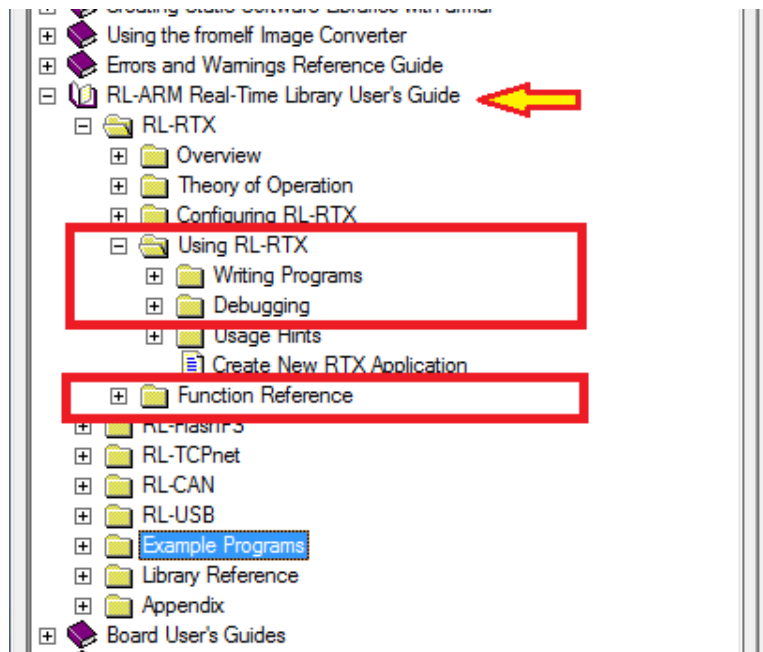

Figure 2.12: Keil IDE: RL-RTX Manual
5. Start a PuTTY terminal and make sure you have the correct configuration as shown in Figures 2.12(a) and 2.12(b).
The manual of the RL-RTX is accessible through the Keil MDK-ARM Help (see Figure 2.12). The highlighted sections are highly recommended to read through.